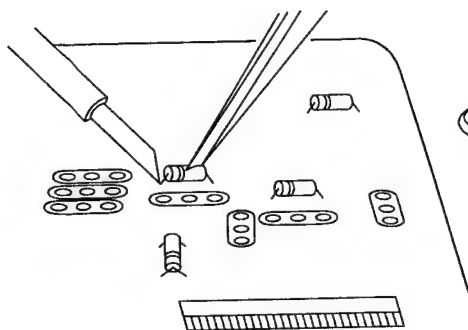

Fig. 5-6-1
1. Hold a Chip part to be removed with tweezers and apply heat to the solder at one end of the part with a soldering iron. (Fig. 5-6-1)